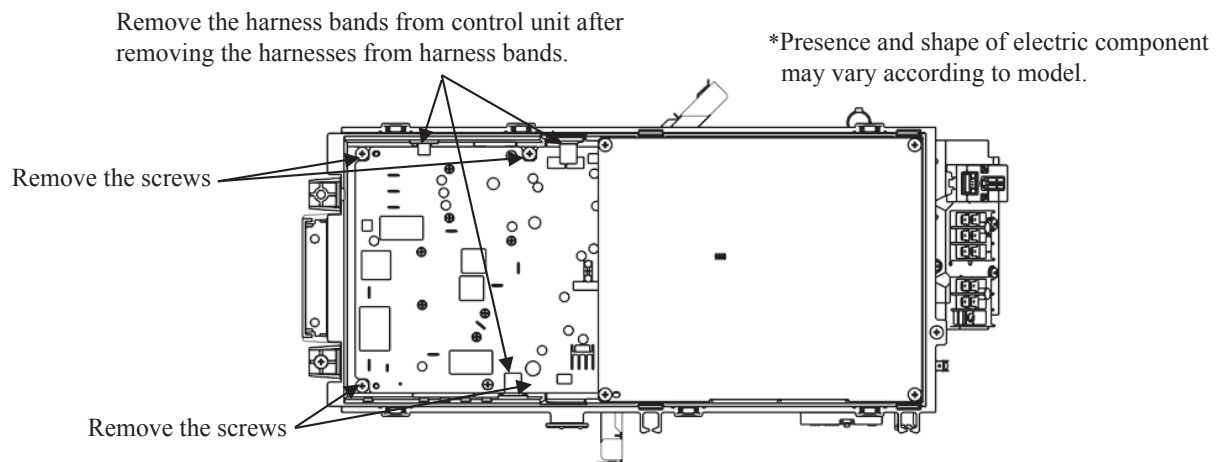

Fig.3 Target places where harness bands and screws are removed
- 4) Remove the harness bands (3 places) from the control unit, then remove the fixing screws (4places) from the radiator. (Refer to Fig.3)